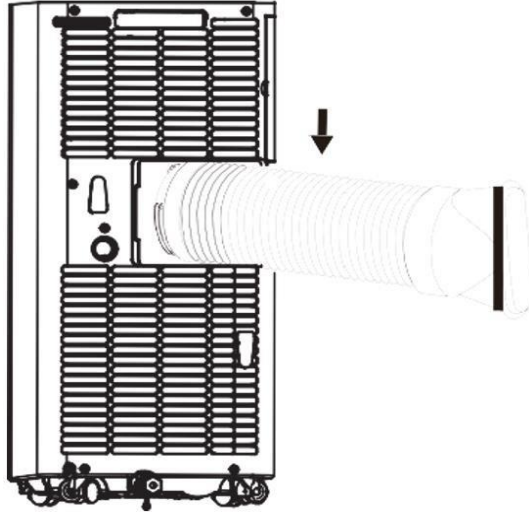

Fig.1
- Screw the exhaust air hose (with adapter) to the exhaust air outlet at the rear of the appliance (counterclockwise, fig. 1).